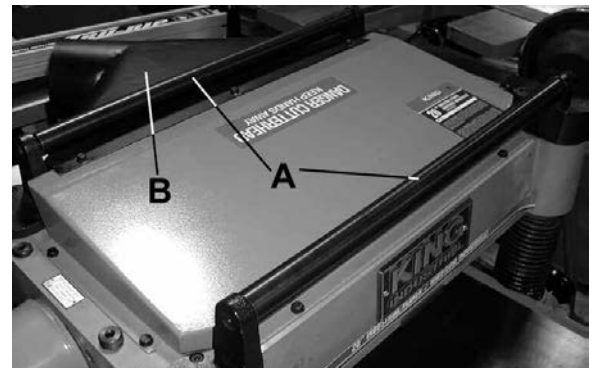

FIGURE 29
The two return rollers (A) Fig. 29 on the top of the Planer serve as a convenient stock rest. When planed lumber is returned to the infeed side, it saves time and motion.
This standard accessory dust collector hood (B) Fig.29 is assembled to the rear of the Planer using hex. screws and washers. Connecting a dust collector to your Planer provides an efficient means of maintaining a clean and safe work area.